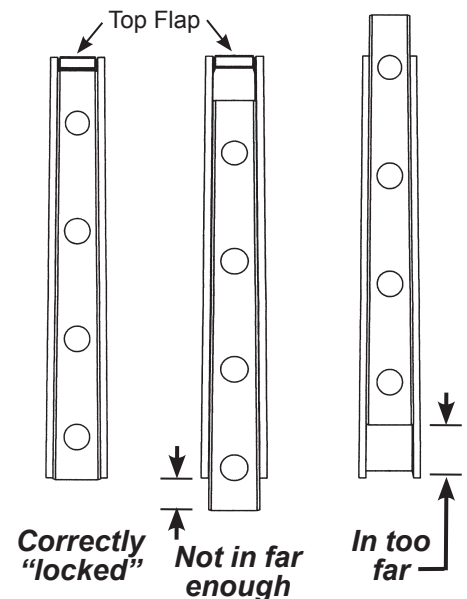

Figure 4
**TROUBLESHOOTING TIP:** If chair does not sit level on the floor, check that all wedges are correctly "locked," as shown in figure 4.
8. With scrap cardboard or other protective material over the fabric, use a rubber mallet (not a standard hammer) to gently tap the seat and back cushions until the interlocking wedges are "locked" together. Refer to figure 4 on opposite side of this sheet.
**Important: Wedges are correctly "locked" when the inner wedge comes into contact with the top flap of the outer wedge, and the bottom edges align, as shown in figure 4. Avoid excessive force or damage to the wedges may occur.**
**TROUBLESHOOTING TIP:** If chairs do not sit level on the floor, check that all wedges are correctly "locked" as shown in figure 4 on opposite side of this sheet.